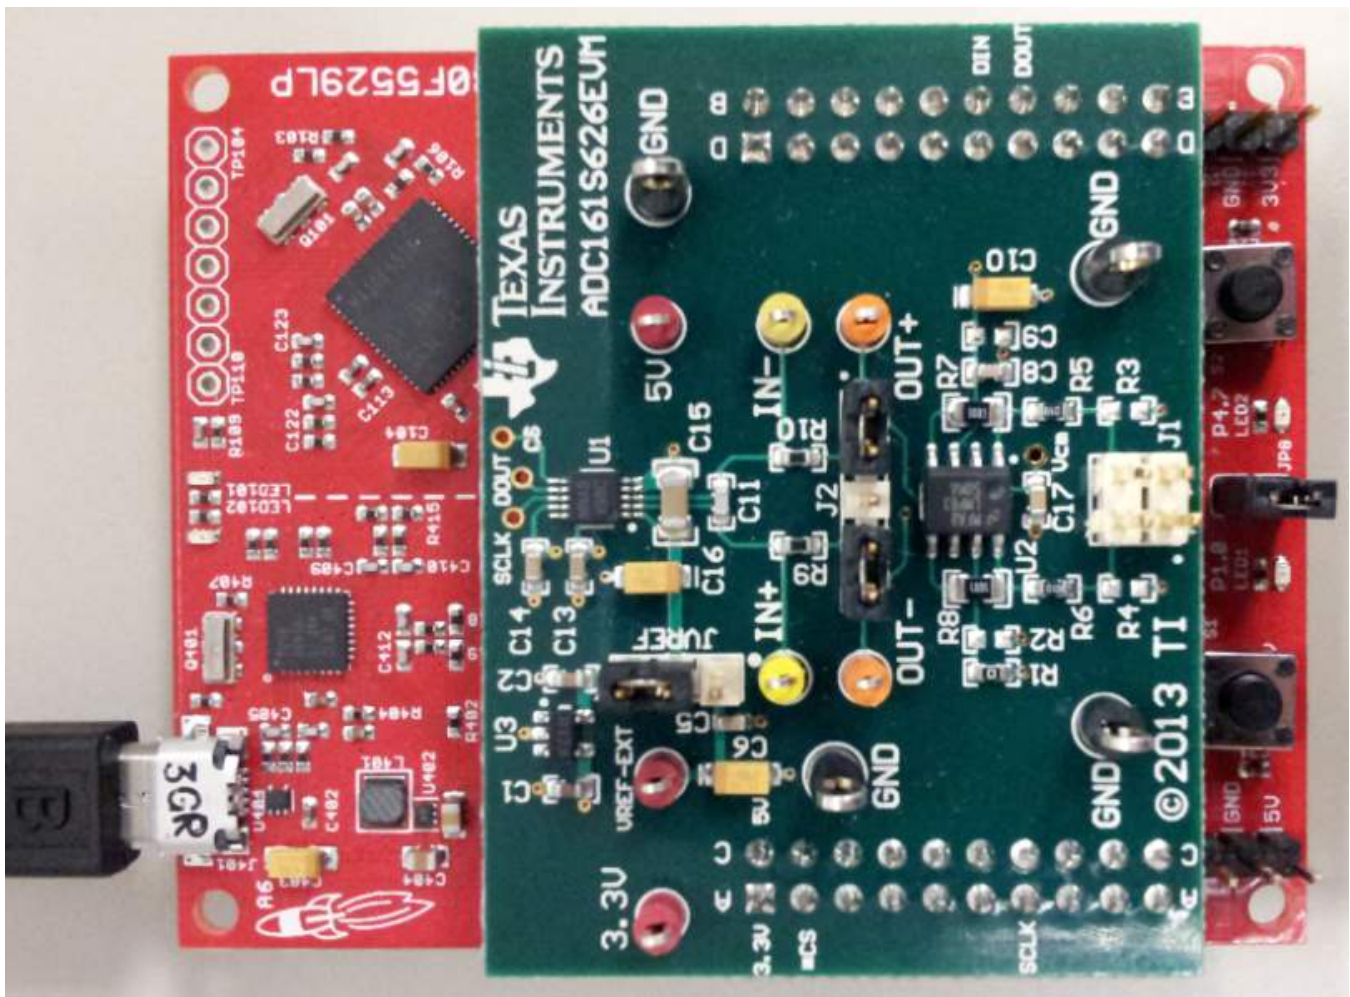

Figure 13. ADC161S626EVM Hardware Connection
1. The female headers JA, JB, JC, and JD on ADC161S626EVM should be connected with the MSP430 Launch Pad correctly as shown in Figure 13. The ADC161S626EVM is supplied by the MSP 430 Launch-Pad through 5 V and 3.3 V pins.